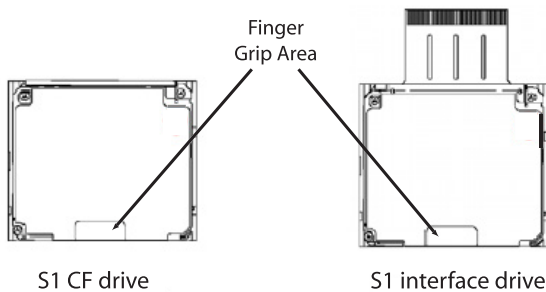

Figure 1 ST1 Series - Finger grip areas
- ST1 Series disc drives are fragile. Do not drop or jar the drive. Handle the drive only by the edges or by the finger grip area shown in Figure 1. Keep the device in the packaging until you are ready to install it and between uses to minimize handling damage.